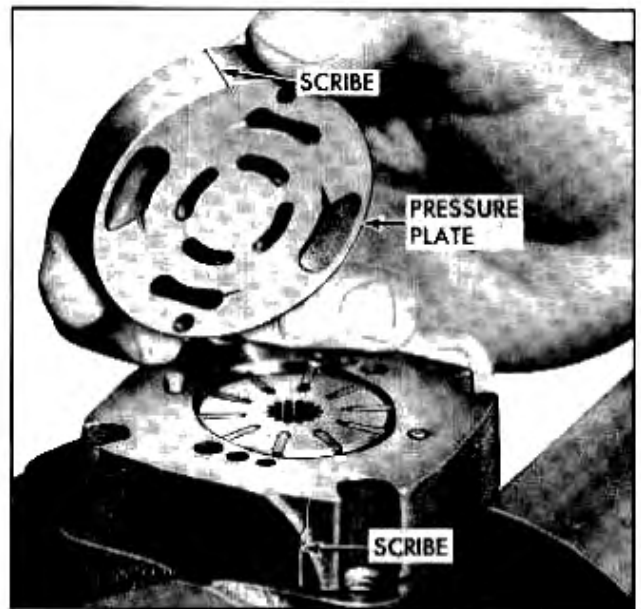

Fig. 9-73 Removing Pressure Plate
8. Scribe position of pressure plate and remove plate from dowel pins (Fig. 9-73).